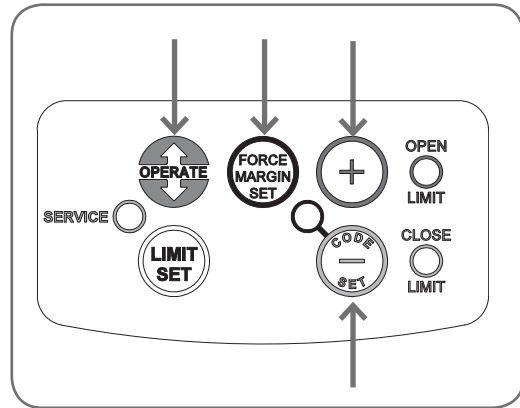

Fig. 28
- Press the OPERATE button to open the door (**Fig. 28**).
- Press the OPERATE button to close the door (**Fig. 28**).
- Press and hold the FORCE MARGIN SET button (**Fig 28**).